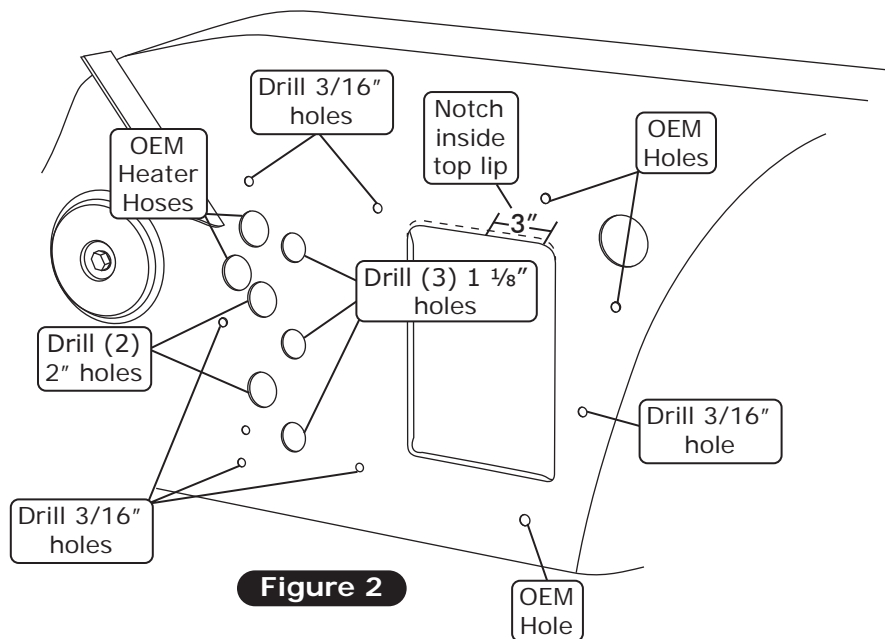

Figure 2
6. Drill the holes as shown in Figure 2, below.
7. Notch the inside of the top lip 3" as shown in Figure 2, below.